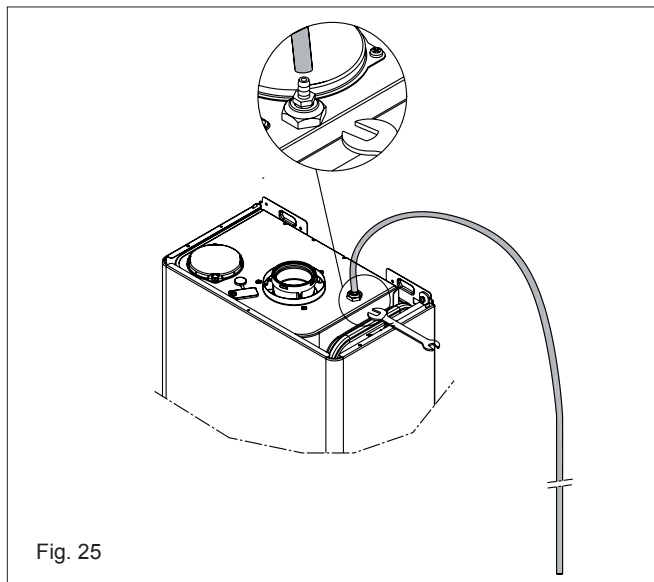

Fig. 25
5.3.1 MANUAL AIR RELEASE (fig. 25)